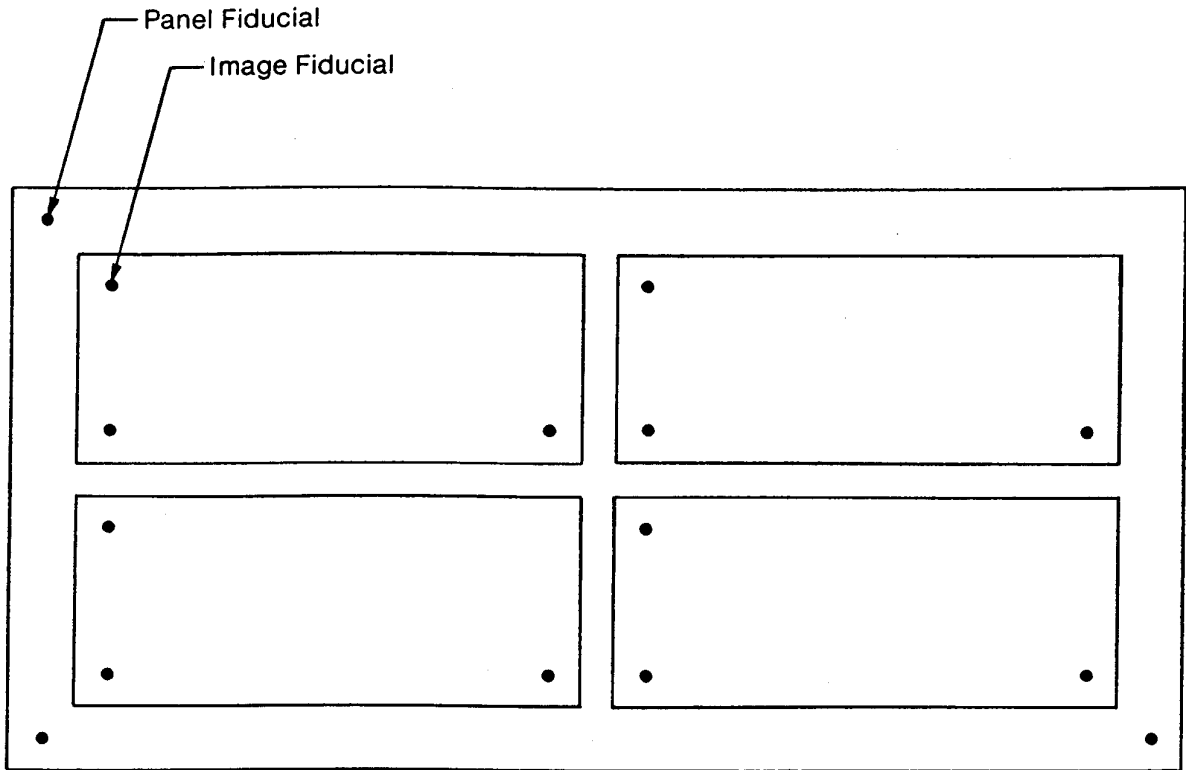

Figure 2. Fabrication Panel and Printed Circuit Board Image Global Fiducial Marks.
3.2 Local Fiducials: (See Figure 2.)